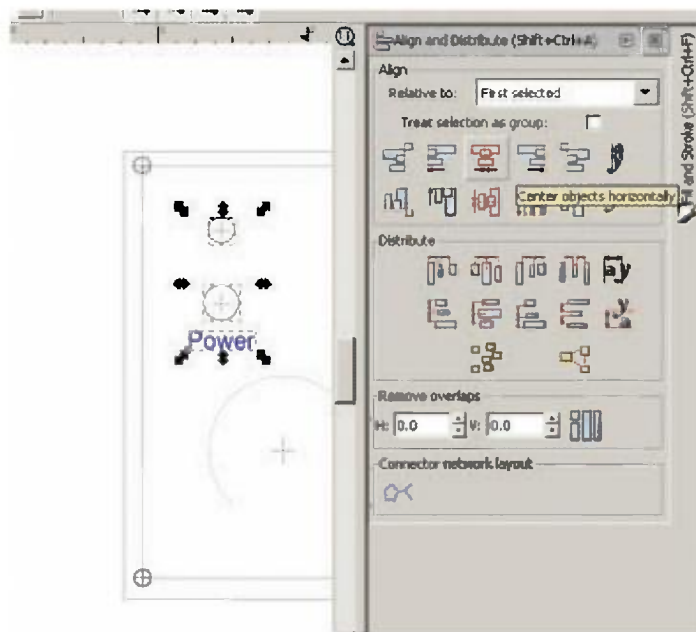

Figure 13. Align objects by selecting them (the first selected is the "anchor") and then choosing an option in the Align and Distribute panel.
3. Click on the Alignment icon(s) you wish to use. For example, to align the objects in the same vertical plane, click the Center Objects Horizontally icon as shown in **Figure 13**.